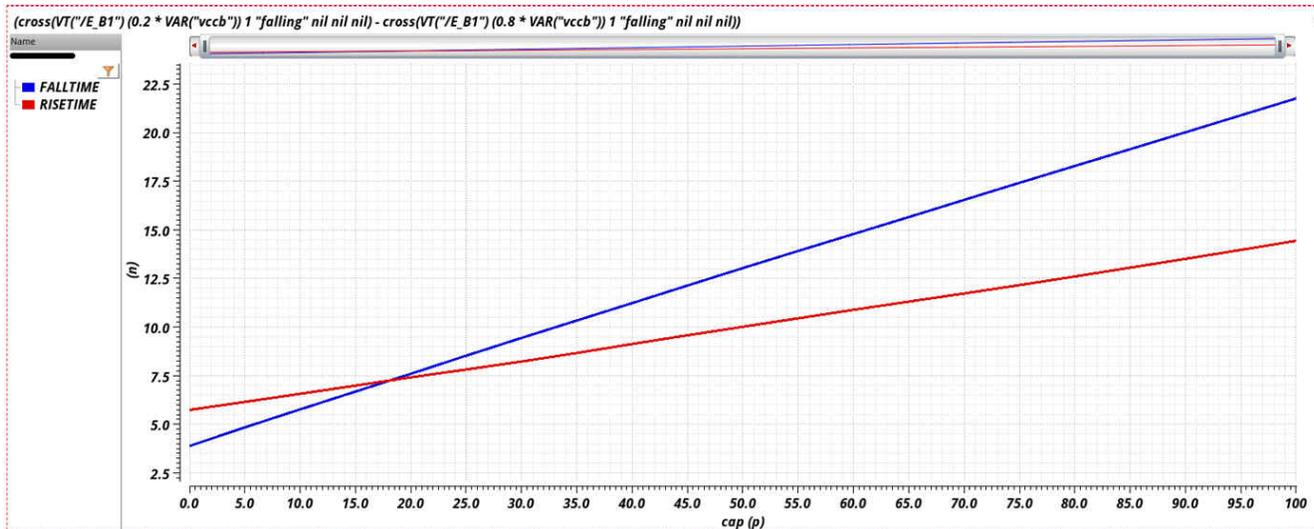

Figure 4-1. Example of Rise and Fall Times Increasing with Lumped Capacitance
- Figure 4-1 shows the relationship for rise / fall times being directly proportional to the lumped capacitance.